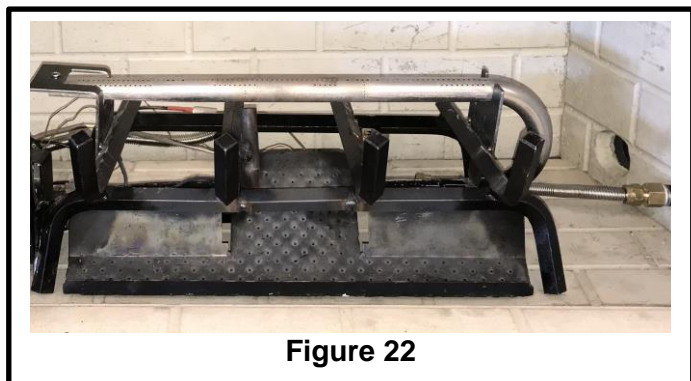

Figure 22
7. Attach the flex connector to the adapter as shown in Figure 22. Tighten securely. IF FLEX LINE IS NOT LONG ENOUGH, LONGER FLEX LINES CAN BE PURCHASED AT YOUR LOCAL HARDWARE STORE.